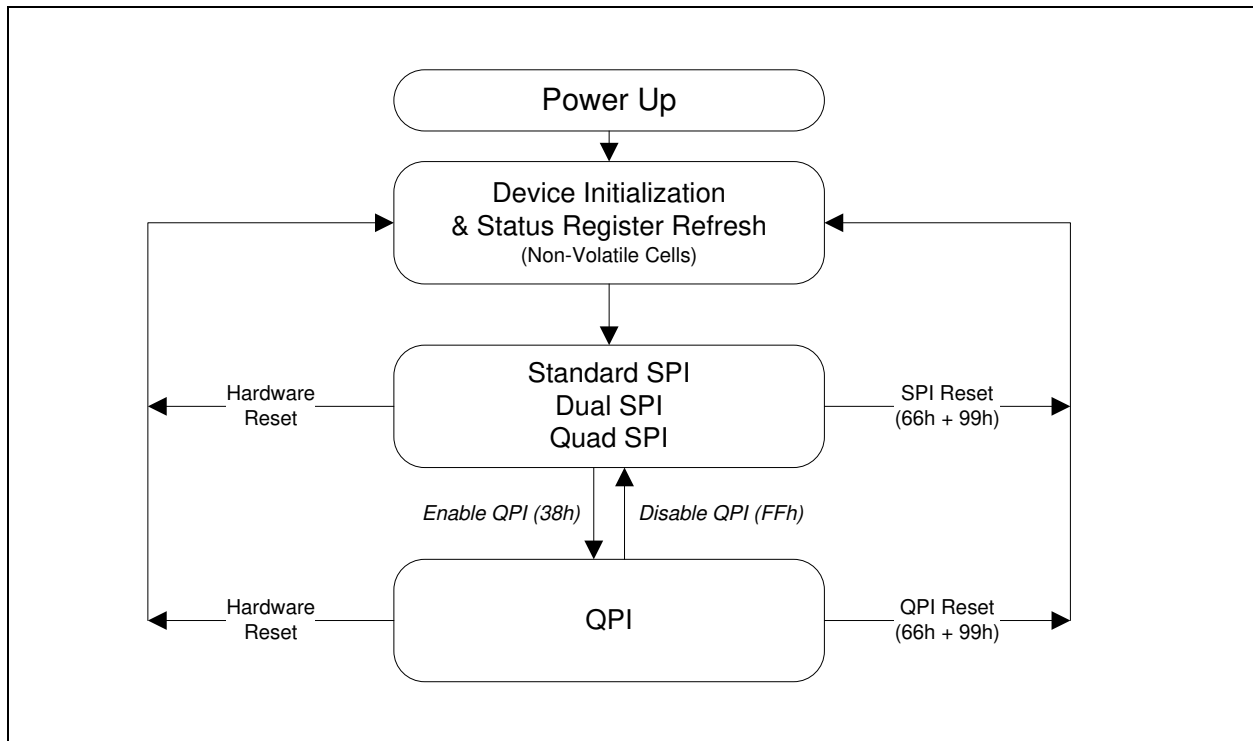

Figure 3. W25Q128JW Serial Flash Memory Operation Diagram
The W25Q128JW supports Quad Peripheral Interface (QPI) operations only when the device is switched from Standard/Dual/Quad SPI mode to QPI mode using the “Enter QPI (38h)” instruction. The typical SPI protocol requires that the byte-long instruction code being shifted into the device only via DI pin in eight serial clocks. The QPI mode utilizes all four IO pins to input the instruction code, thus only two serial clocks are required. This can significantly reduce the SPI instruction overhead and improve system performance in an XIP environment. Standard/Dual/Quad SPI mode and QPI mode are exclusive. Only one mode can be active at any given time. “Enter QPI (38h)” and “Exit QPI (FFh)” instructions are used to switch between these two modes. Upon power-up or after a software reset using “Reset (99h)” instruction, the default state of the device is Standard/Dual/Quad SPI mode. To enable QPI mode, the non-volatile Quad Enable bit (QE) in Status Register-2 is required to be set. When using QPI instructions, the DI and DO pins become bidirectional IO0 and IO1, and the /WP and /HOLD pins become IO2 and IO3 respectively. See Figure 3 for the device operation modes.